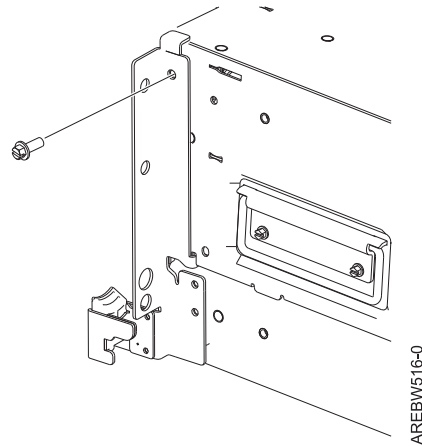

Figure 27. Rotate the top of the bracket back and install the screws
- d. Rotate the top of the bracket back so that the top tab is on top of the chassis. Then install the screws as shown in Figure 27 on page 34.